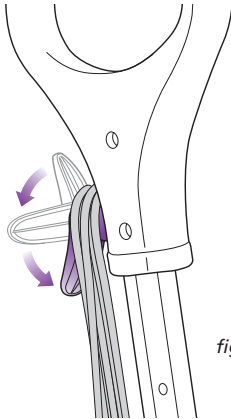

fig. 7
Press the **ON/STEAM SETTING** button to select the type of cleaning that you want. **(Fig. 7)**
- 1 Pull and twist the quick release cord holder to unwrap the power cord completely. Plug into an electrical outlet. (**fig. 7**)